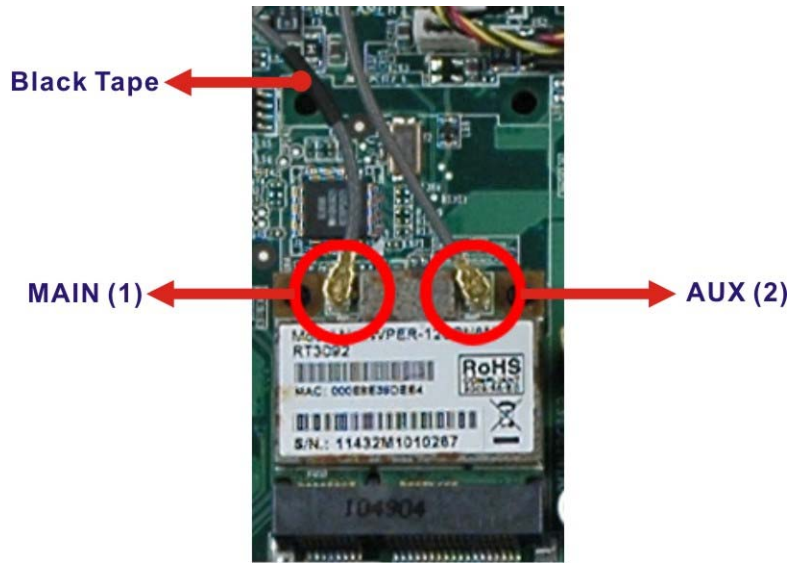

Figure 4-6: Attaching the Antennas
- Step 10:** Connect the main (1) and auxiliary (2) antennas. The main antenna is indicated with a strip of black electrical tape. See **Figure 4-6**.